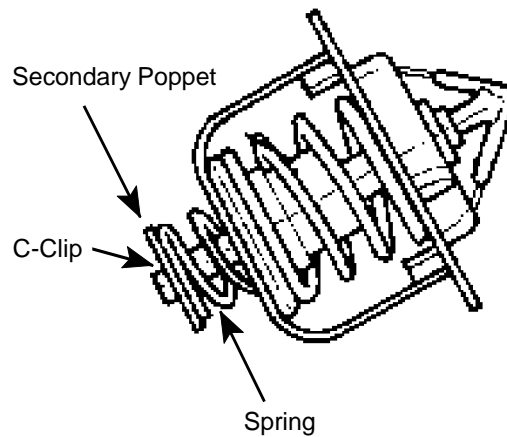

FIGURE 4
2. Press down on the secondary poppet spring. Remove and discard the secondary poppet c-clip, and spring (Figure 4).